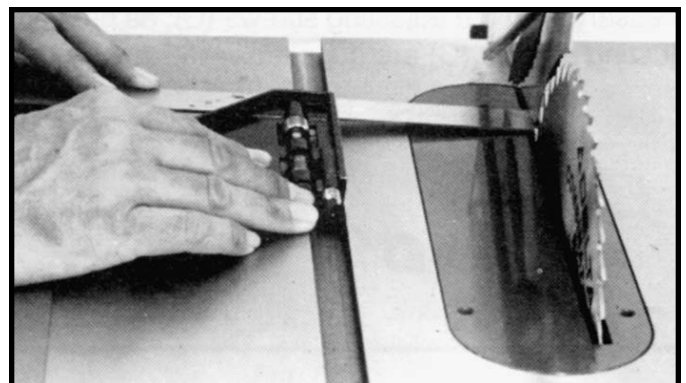

Fig. 125
3. Rotate the saw blade so that the same tooth you used in **STEP 2** is in the rear position, as shown in Fig. 125, and check this distance. Both the front and rear measurements should be identical.